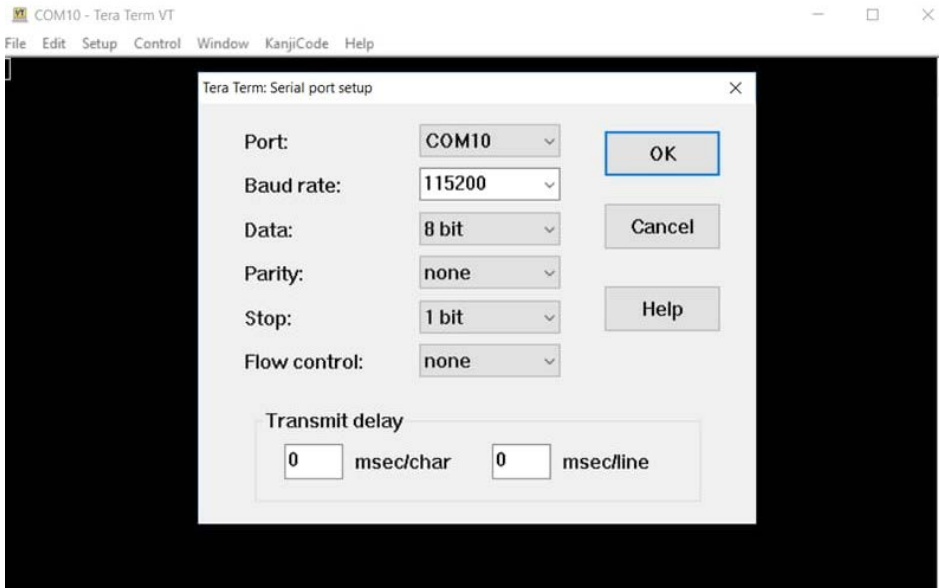

Figure 11. Displays 115200bps baud rate selected in Tera Term.
- Set the baud rate to 115200bps by navigating to Setup/Serial Port. This opens a new configuration window. Select 115200 in the Baud rate pull-down menu, as shown in Figure 11.